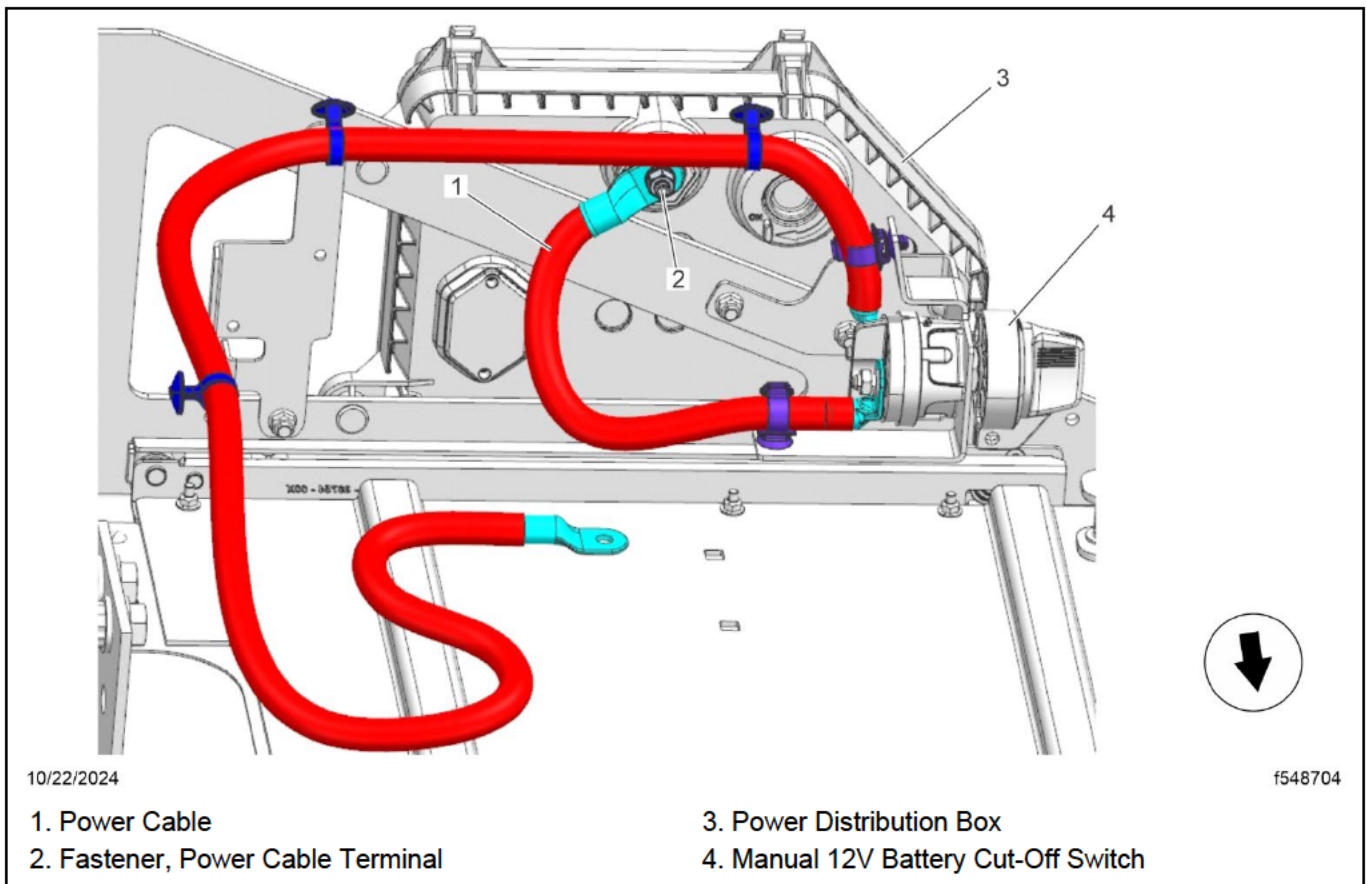

Fig. 6, Disconnecting the Power Cable from the Power Distribution Box
14. Remove the fastener and disconnect the power cable (A66-19607-015) from the power distribution box. See **Fig. 6**. Do not disconnect the power cable from the manual battery cut-off switch. Retain the fastener for installation of the new cable in a later step.